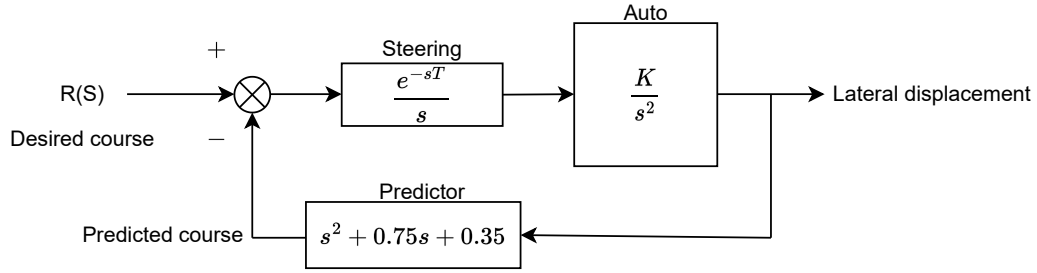

Figure 13: automobile and driver control
6. A model of an automobile course control system is shown in Figure 13, where $K = 5.6$. (15')